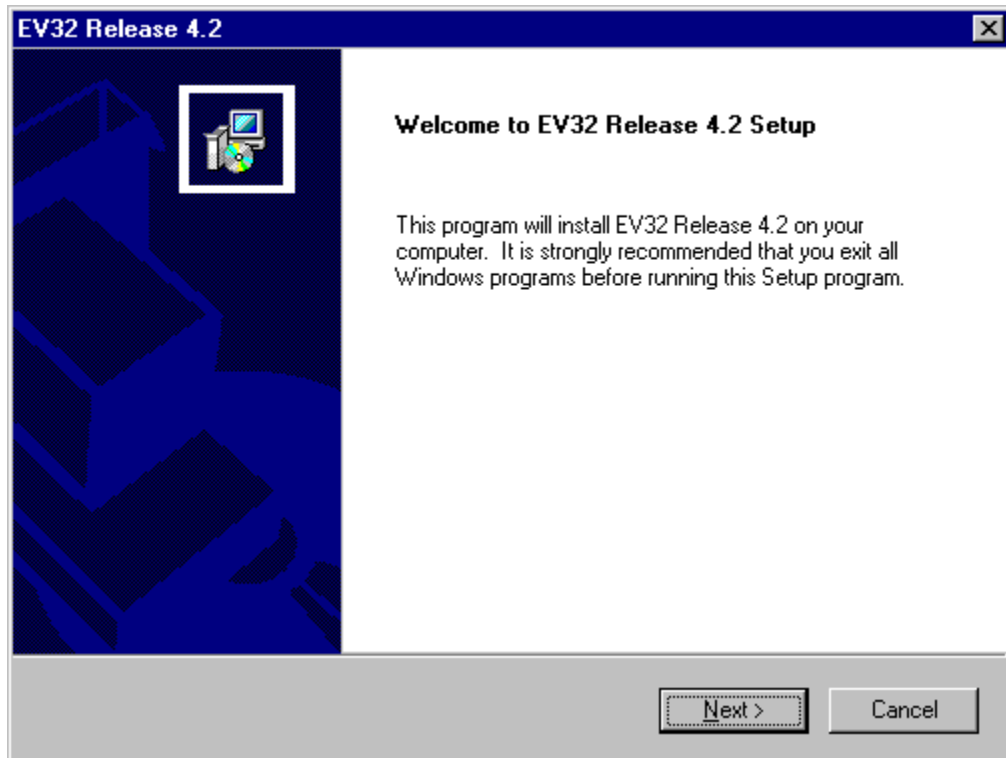

Figure 2-1. Installation Window
4. Click the **Start** menu, choose **Run**, click the **Browse** button, select the appropriate drive for the CD-ROM, select the file named *Setup.exe*, click **Open**, then click **OK** on the **Run** window. The installation window shown in Figure 2-1 will appear. Click the **Next** button.